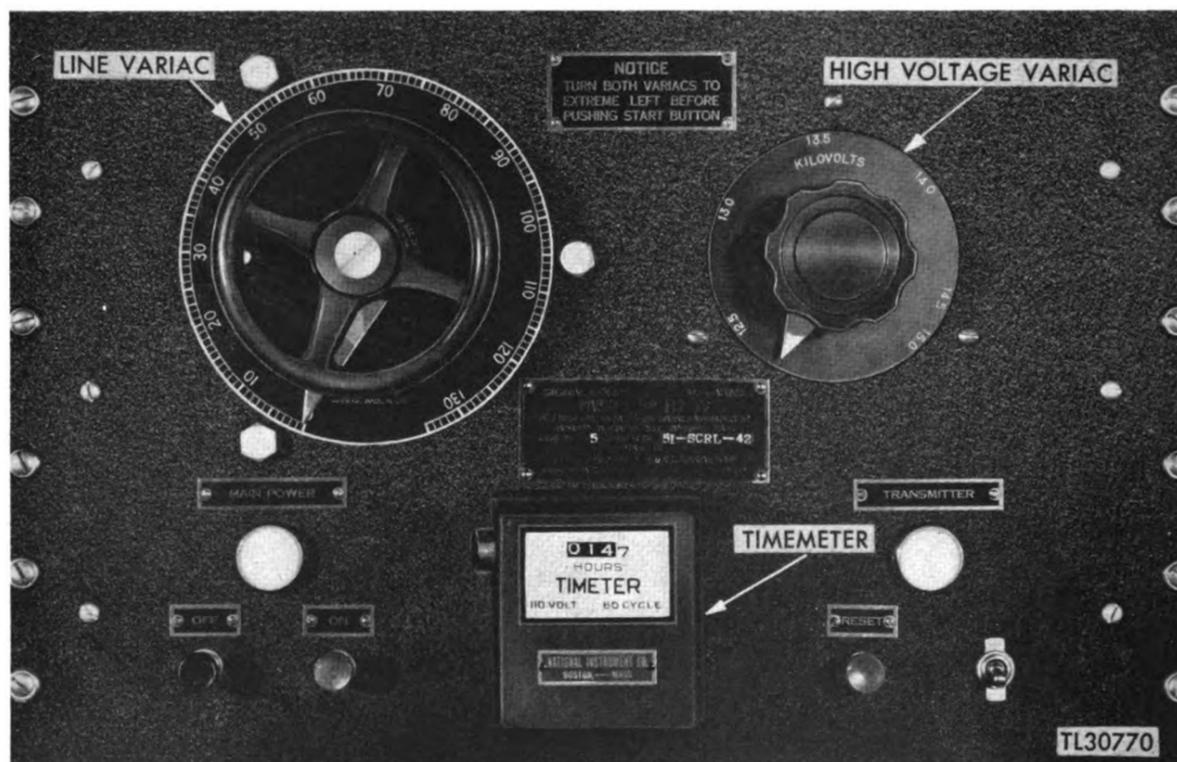

Figure 55. Control cabinet power control panel.
a. If the input voltage of the control rack is not within 1 volt of the optimum value, check item 16, line voltage of the power unit. Adjust the line variac (fig. 55) for the optimum input voltage.
**LOCATION.** The Timeter is centered on the lower half of the power control panel (fig. 55).
**LOG ENTRY.** Enter in the log space to the nearest 1/10 hour the reading shown on the Timeter. Place an asterisk (\*) after the reading on the log sheet if the period of time between readings of the Timeter does not tally with the elapsed operating time (item 63) as indicated by the official station timepiece.
LOCATION. The high-voltage variac is located in the upper right-hand part of the control cabinet power control panel (fig. 55).